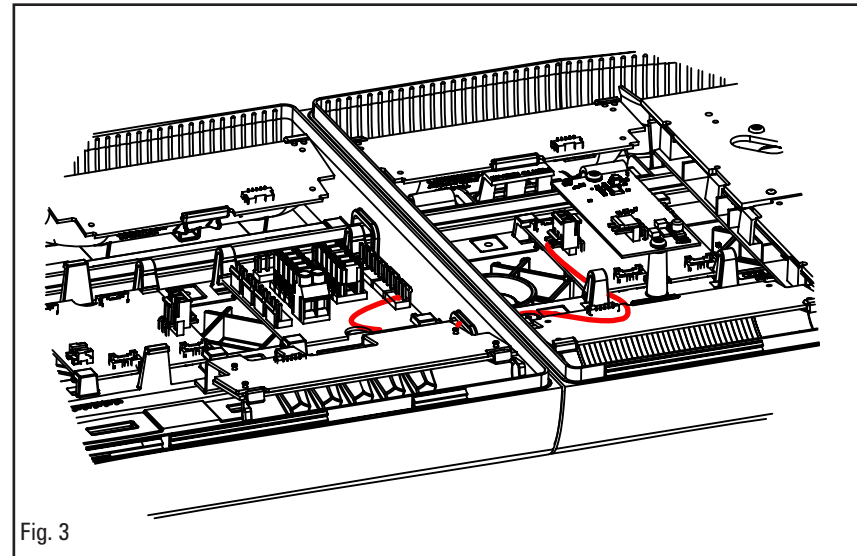

Fig. 3
5. Route 3 wire harness between the light sensor board and the power distribution board using the wiring channels built into the lightbar as shown in Figure 3.